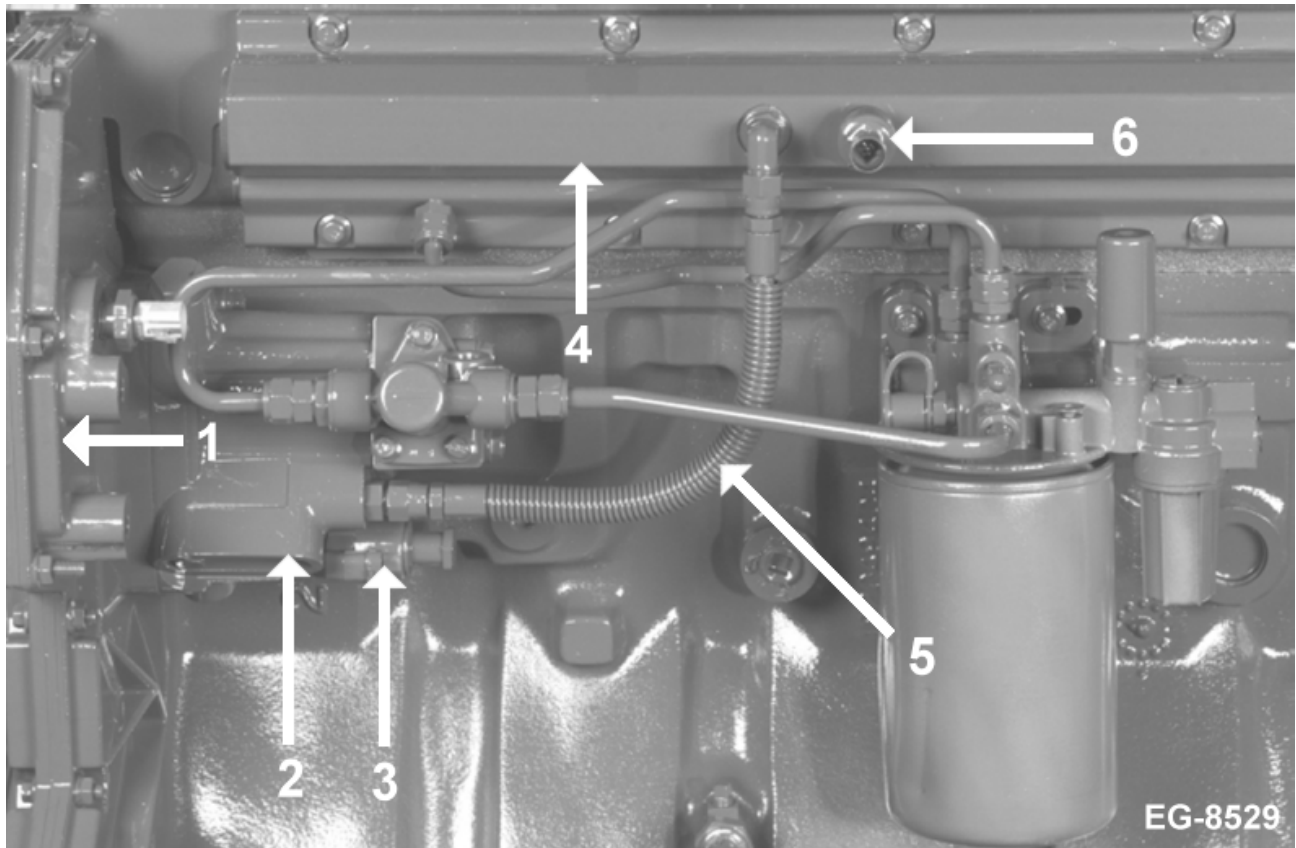

Figure 3 Injection Control Pressure System Components
- **Injection Control Pressure System** (See Figure 3, page 9)